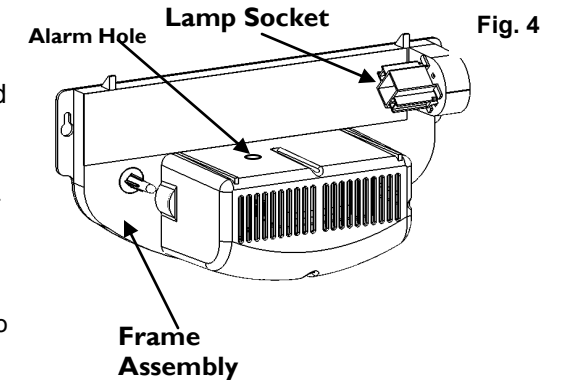

Fig. 4
3. Insert new lamp and firmly snap-in socket (see page 5, Fig. 4 & 5).
1. Remove the ultraviolet lamp from the box. Insert the lamp into the lamp socket by aligning the pins of the lamp with the light socket and snap in firmly. (Fig. 4 & 5)
The Paraclipse Fly Patrol™ has an out of paper sensor that emits an audible beep when it is time to replace the cartridge. The alarm is triggered when the paper no longer covers the alarm hole in the top of the motor enclosure. ( see Fig. 4)